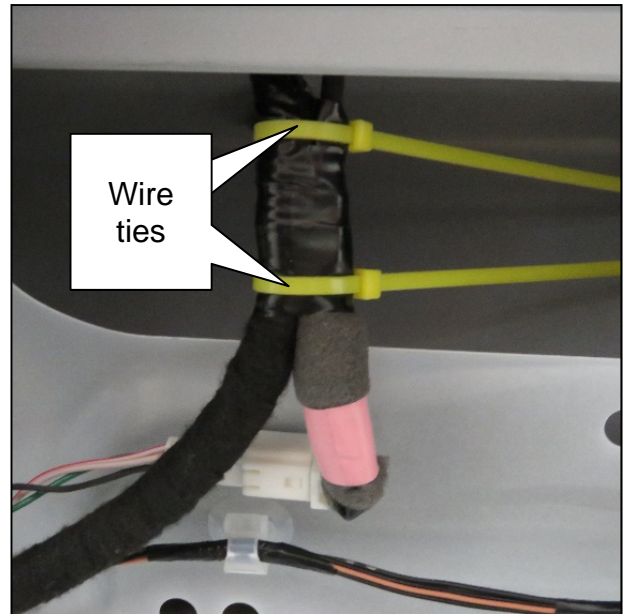

Figure 25
26. Place two (2) wire ties securely around the taped section, as shown in Figure 25.